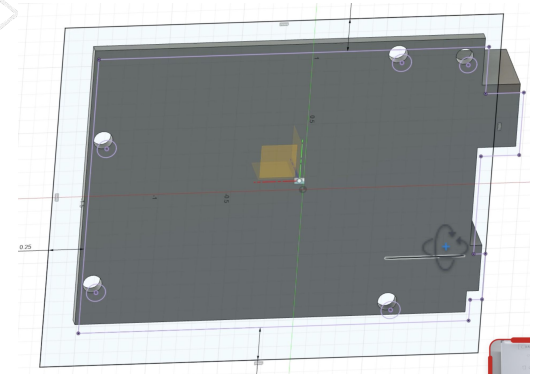

Figure 1.6
- Once complete, you'll see all sides turn black, indicating a fully '**defined sketch**' (see Figure 1.6).